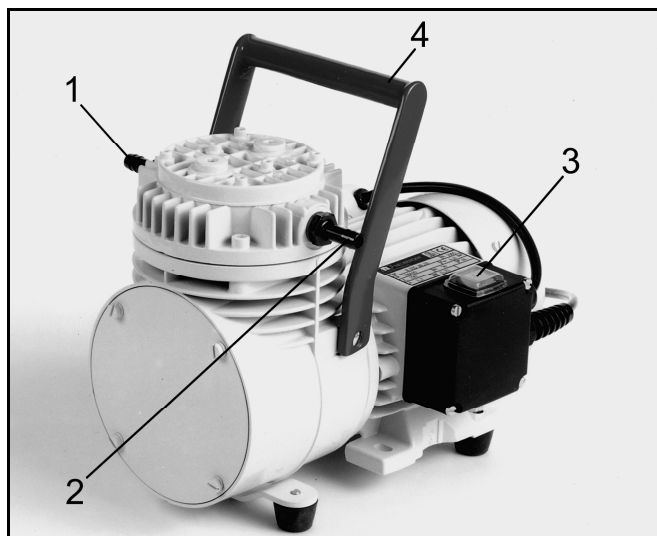

Fig. 2: Diaphragm Pump N 035 AN.18
- ➔ Switch on pump with mains switch (see fig. 2, 3 or 4, position 3).
- ➔ Switch off pump with mains switch (see fig. 2, 3 or 4, position 3).